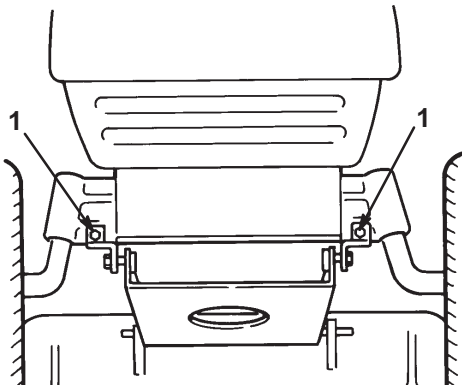

Figure 39
11. Install the mower pivot mount brackets to the front axle with bolts and locknuts (Fig. 39).